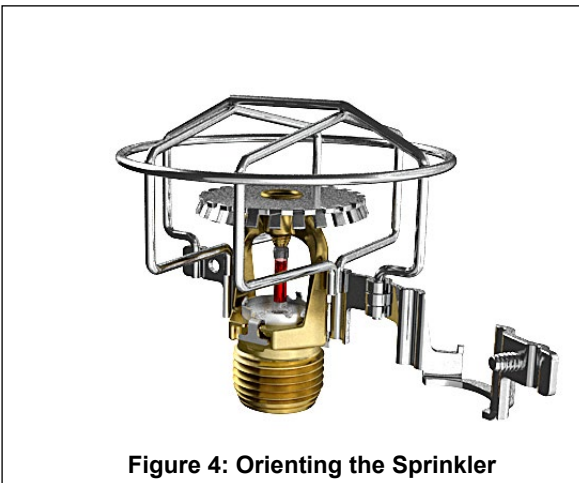

Figure 4: Orienting the Sprinkler
3. Once the sprinkler is inside the frame and vertically oriented, rotate it 90 degrees in either direction so the activation element T-hinge is not blocked. See Figures 4 and 5.